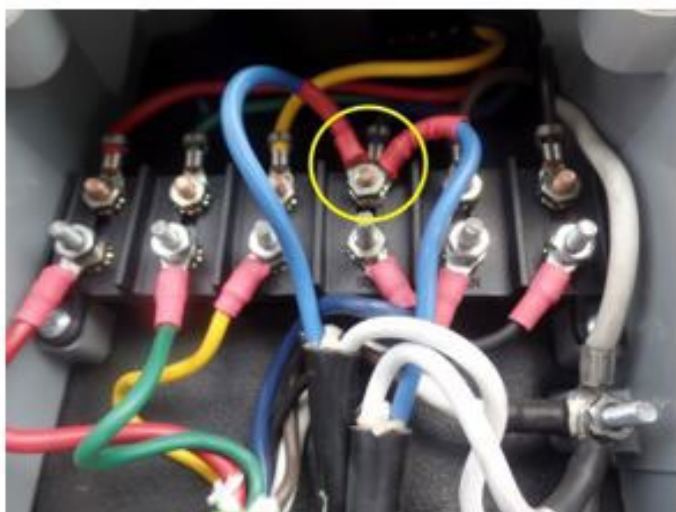

Figure 1: 7-Way Nosebox
- Check to see if the 7-way nosebox is equipped with circuit breakers (see Figure 1), as the problem may be a failing circuit breaker. Either replace circuit breaker with a new part or connect the blue wire from the Select Controller to the unprotected side of the circuit breaker. Circuit protection is provided by the 30 amp fuse inside the Select Controller.